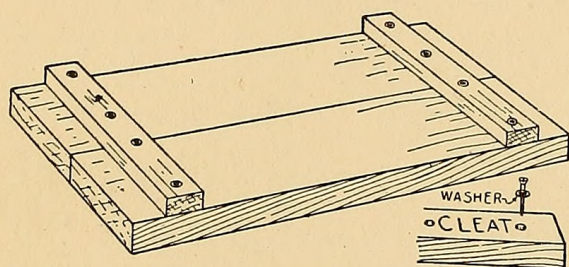
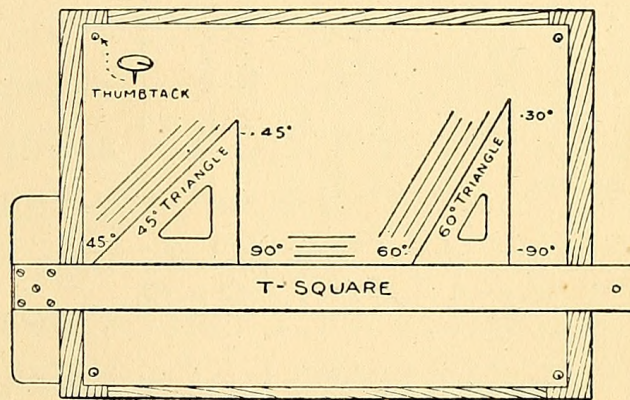

FIG. 85. — The Proper Way to cleat Boards.
FIG. 93. — A Student's Drawing-board (size 16" × 22") and T-square and Triangles.
Figure 85 shows how the movement may be taken care of by attaching cleats to the work. These cleats are held in place with
**A Drawing-board** may be made by cleating together several boards as described on page 70 and illustrated in Fig. 85, but you can buy one so cheaply that it hardly pays to try to make one. The board must be absolutely true upon the left-hand edge, and the wood must be well-seasoned and free from *winding*, *knots* and other defects, which points are taken care of in the boards you buy. A good size for small drawings is a student's board, size 16 inches by 22 inches (Fig. 93). The board may be placed upon your desk while you work, or you may make
**60-degree Triangle** for drawing oblique lines at angles of 60 and 30 degrees (Fig. 93). With the addition of a *ruler*, a couple of *pencils*, an *eraser*, and
**Thumb-tacks**, the best form of which is shown in Fig. 93.